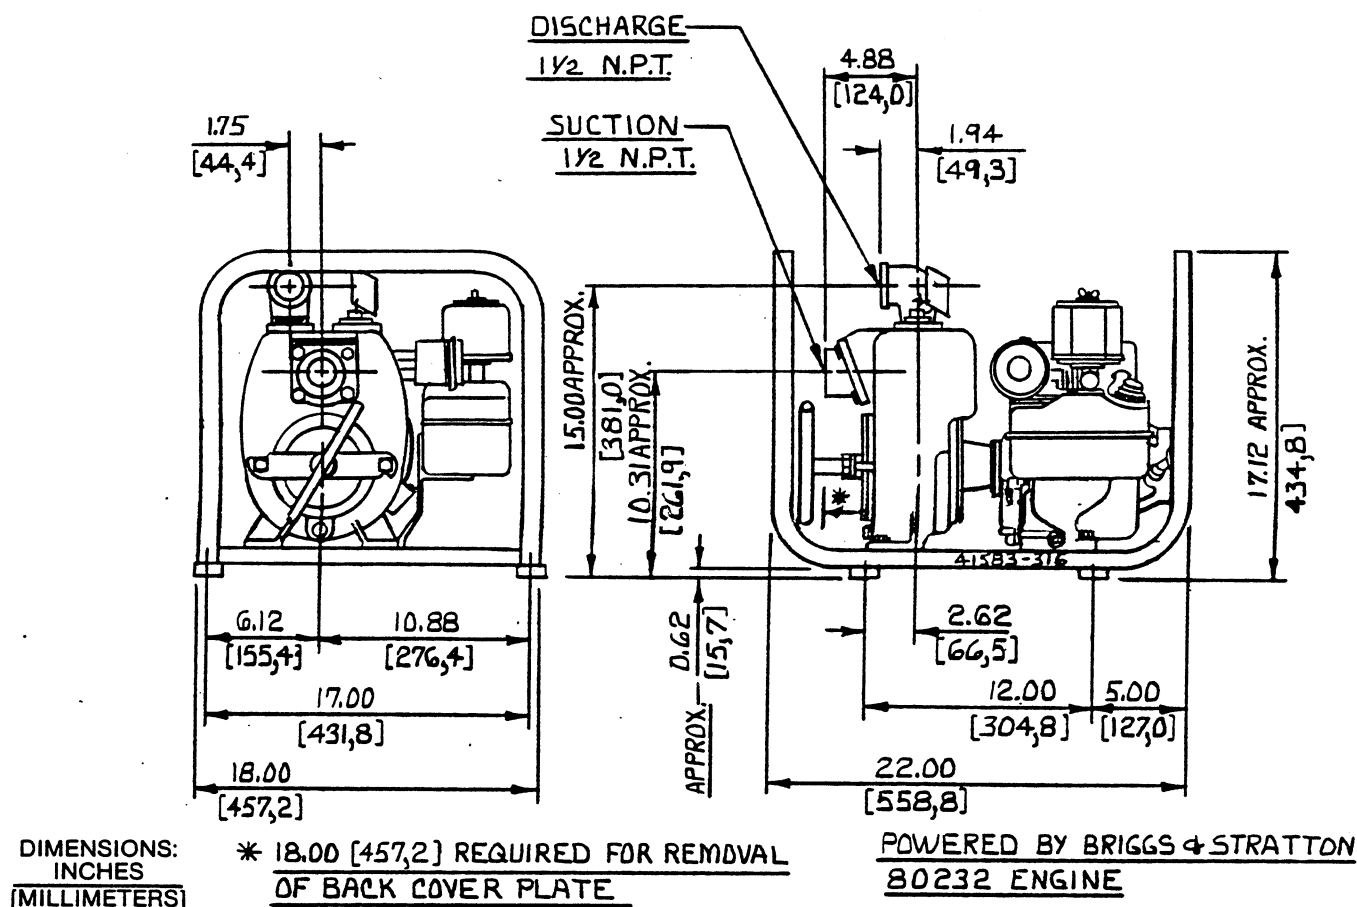

Figure 1. Pump Model 11 1/2A2-8
- f. The rubber foot mounting kit and discharge elbow (see the Parts Lists, pages E-3 and E-5) were shipped loose with the pump. Refer to Figure 1, page E-2 and install the parts as shown.